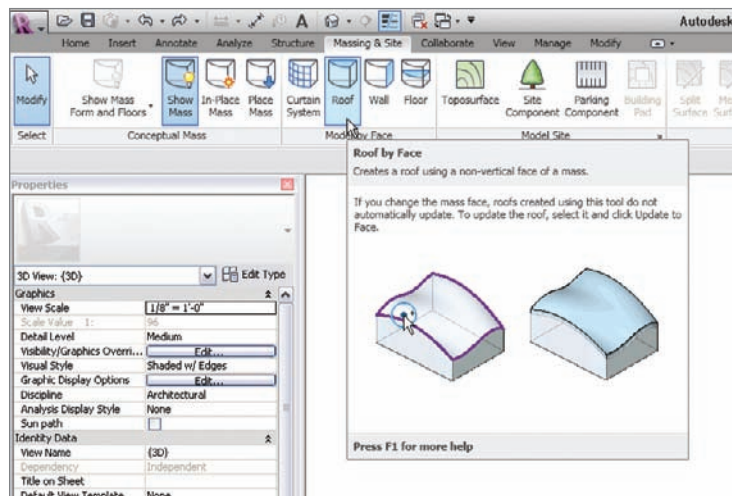

FIGURE 16.47 The Roof button on the Model By Face panel
15. On the Model By Face panel, click the Roof button, as shown in Figure 16.47.